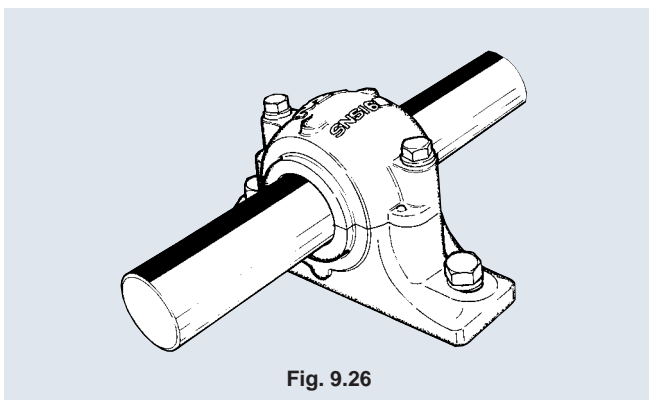

Fig. 9.26
- (7) After filling with lubricant, check the mating surfaces between the upper and lower plummer block housings are stably in contact with each other. Remember to apply grease to the mating surfaces on the plummer block housings to ensure reliable sealing and rust-proofing. Then, fully tighten the tightening bolt. (See **Fig. 9.26.**)